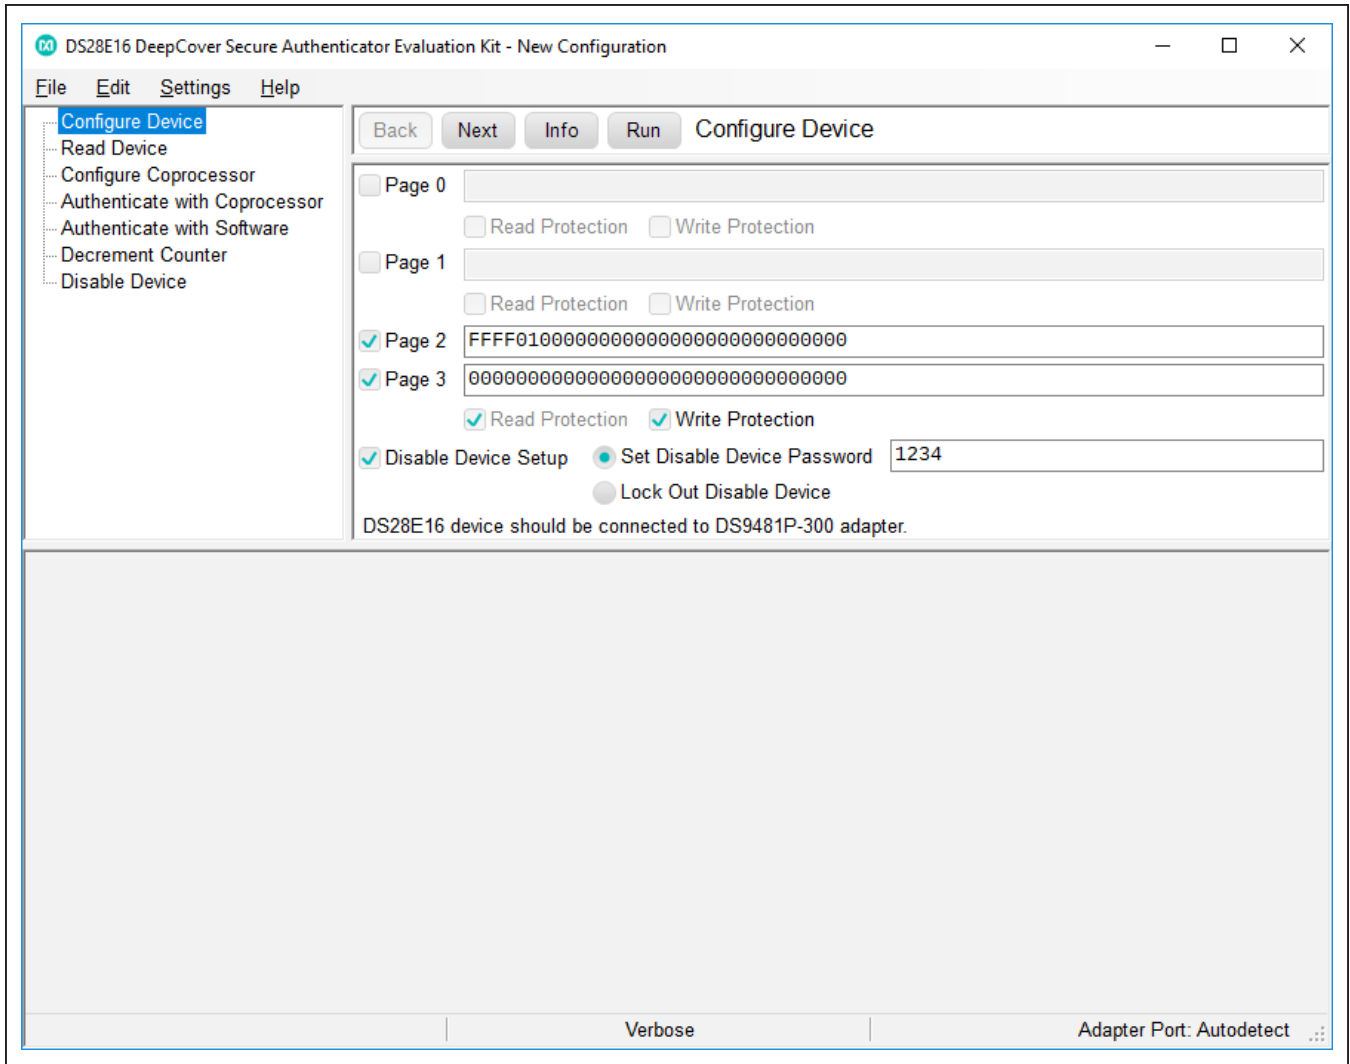

Figure 4. Main Program Screen
- 10) Select a flow from the top-left panel in the program and click on the **Run** button to start the demo as shown in Figure 4. More information about the available flows is available in Table 1.